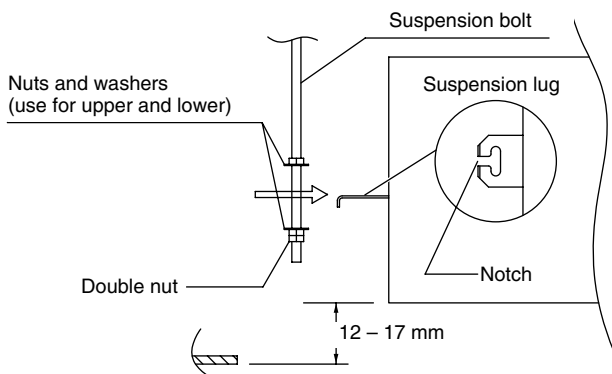

Fig. 3-5
- Thread the 3 hexagonal nuts and 2 washers (field supply) onto each of the 4 suspension bolts (Fig. 3-5). Use 1 nut and 1 washer for the upper side, and 2 nuts and 1 washer for the lower side, so that the unit will not fall off the suspension lugs.